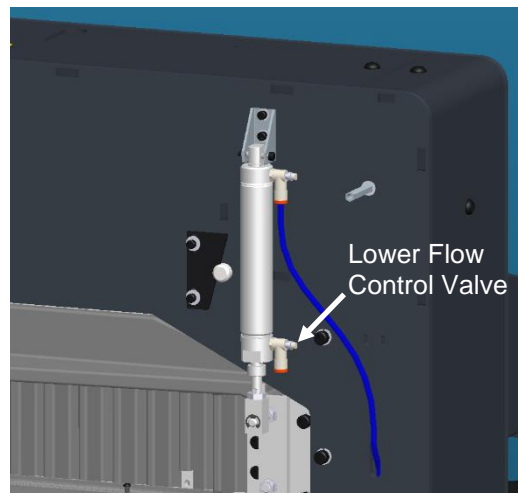

**Figure 39**
1. Open the lower left front door and locate the pneumatic pressure adjustment knob (Figure 39).